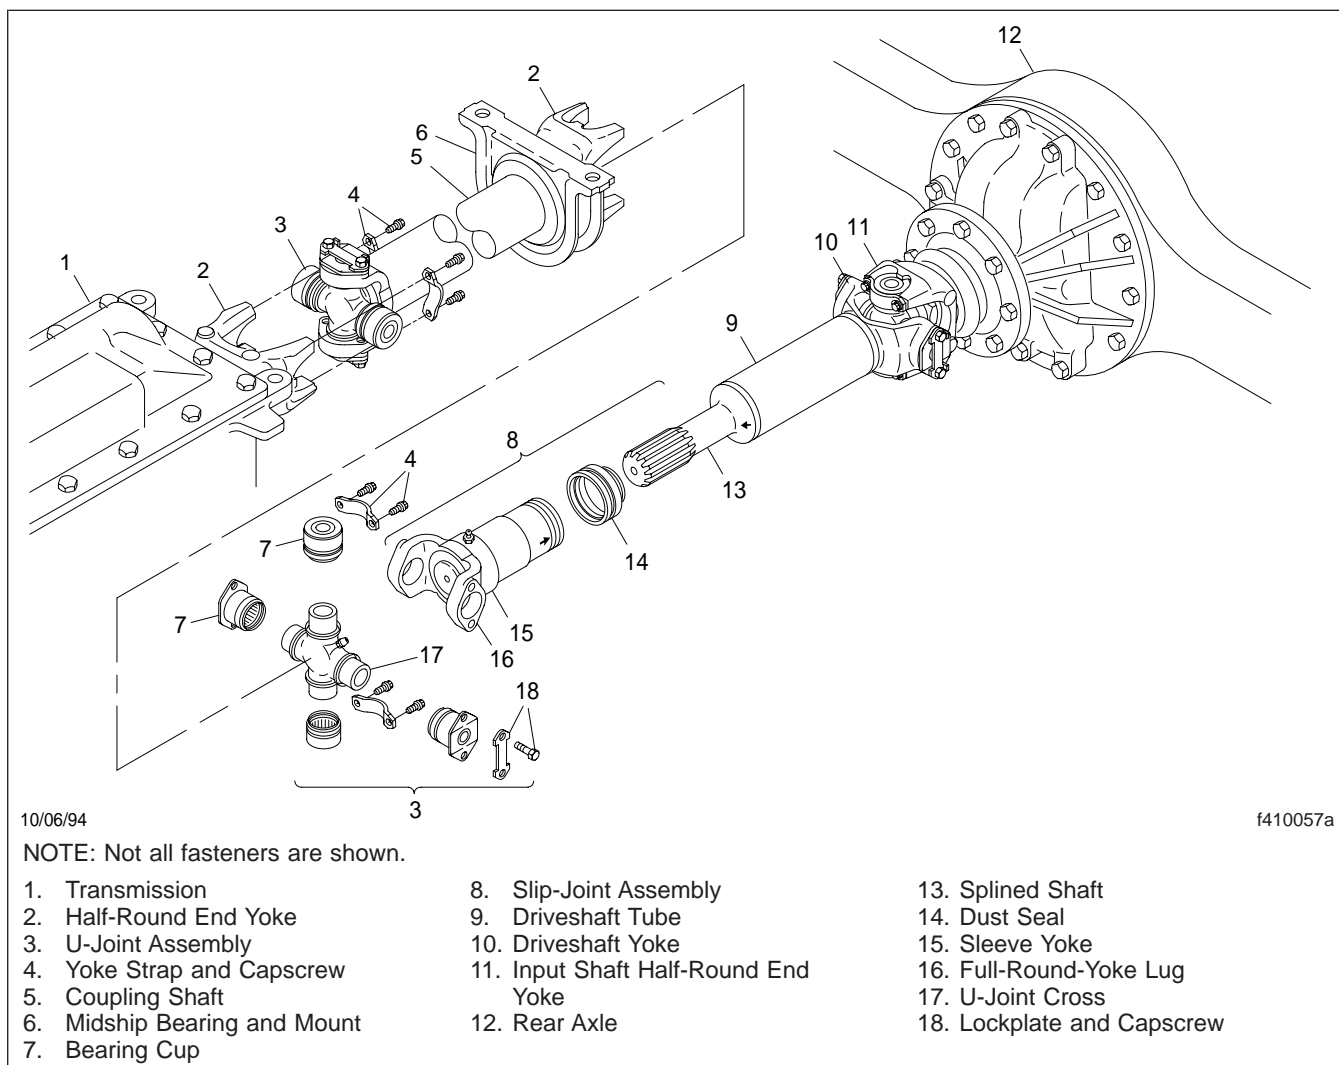

Fig. 1, Driveline Assembly With Midship Bearing
- Check each of the output and input end yokes, see **Fig. 1**, Refs. 2 and 11 for cracks and looseness. Replace cracked yokes. If any end yoke can be moved in or out on its shaft, or can be rocked on its shaft, disconnect the driveshaft and U-joint from the end yoke. Check the drive component's shaft seal for leakage or other visible damage that may have been caused by the loose yoke. Replace the seal if needed. Tighten the end-yoke nut to the value in **Table 1**. If the end yoke is still loose after tightening the yoke nut, install a new yoke and yoke nut.